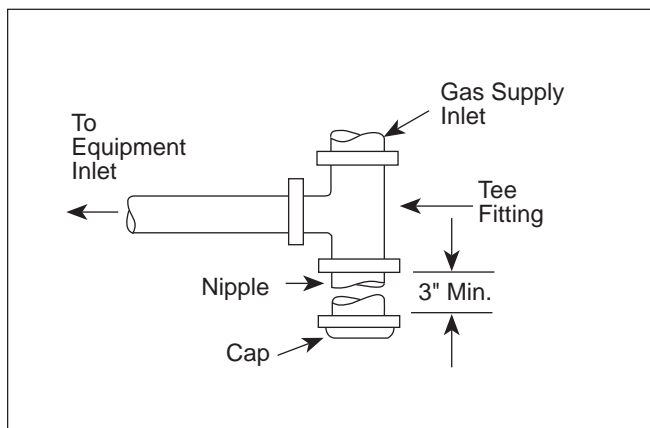

Figure 7. Method of Installing a Tee Sediment Trap.
- A trap (drip leg) must be provided ahead of the gas controls (see Figure 7). Where required by code, provide a second manual gas shutoff valve. Do not remove manual valve furnished with the boiler.